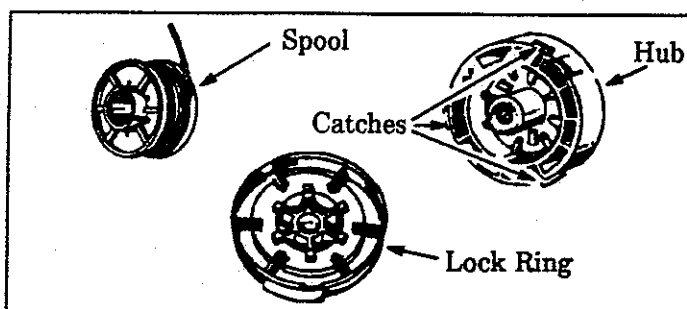

Figure 18
- b. Remove the Lock Ring and Spool. Figure 18.
- g. Check to make sure all three Catches (Figure 18) and the Lock Tab (Figure 19) are properly fastened as shown in Figure 20. Then test the Lock Ring by trying to turn it counterclockwise ←.